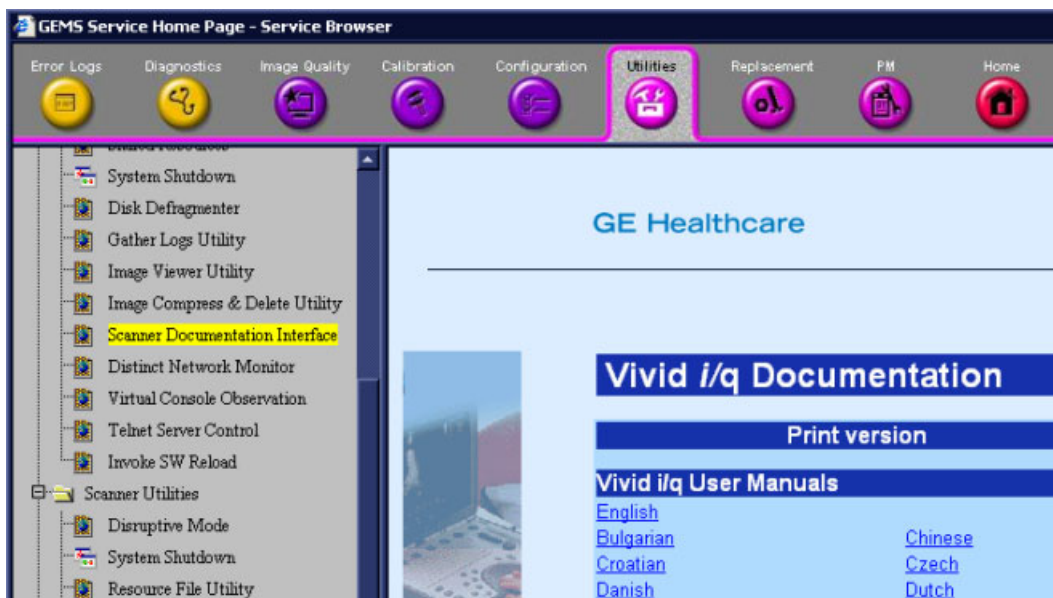

Figure 7-135 Scanner Documentation Interface
- **Scanner Documentation Interface** - enables the system to read a DOC CD if present in a CD-DVD device - Figure 7-135.